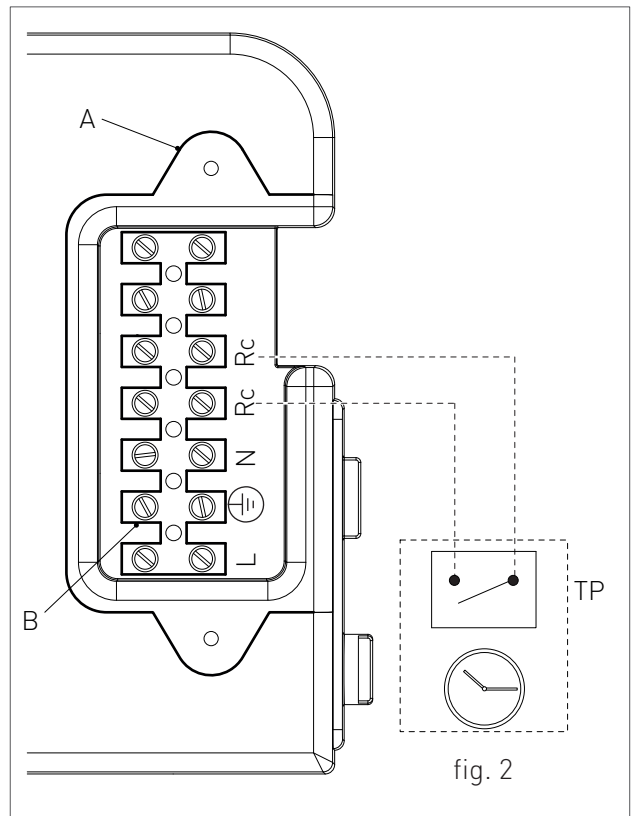

fig. 2
- › Disconnect the two faston of the recirculation probe (see B-fig. 2), and connect them onto the optional probe meant for the storage (part number: 40-00324, see fig. 2). Insert this latter probe into the sensor-holder of the storage tank.
- > remove the front casing of the water heater (see chapter ACCESSING THE WATER HEATER); unscrew the screws and remove plate "A" (see fig. 2).
- > After removing the plate, connect the electrical cables to terminal "B" (see fig. 2);